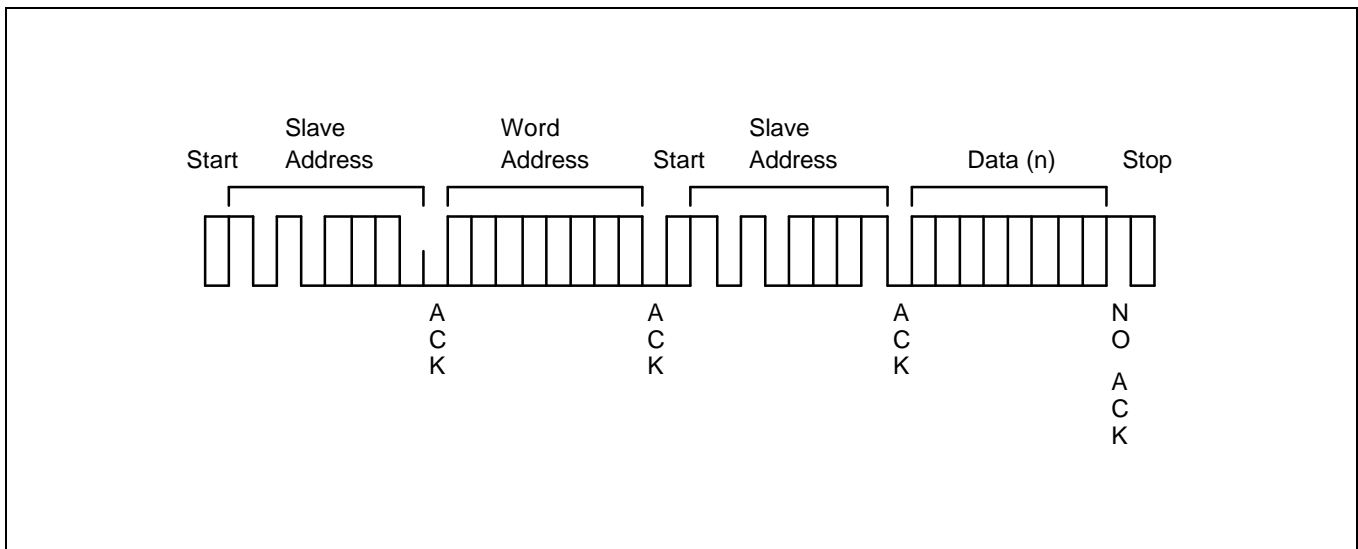

Figure 5-13. Random Address Byte Read Operation
5. The S524L50X51 stops transmitting data and reverts to stand-by mode (see Figure 5-13).